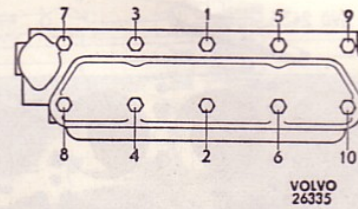
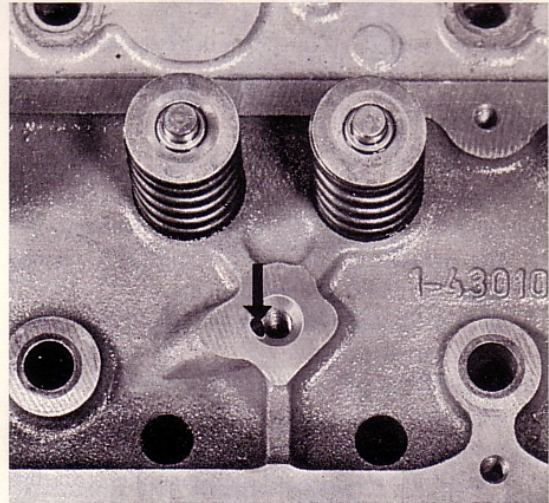
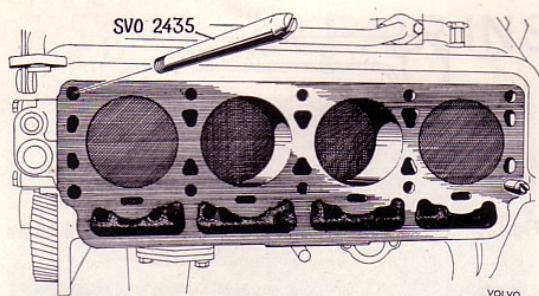

Fig. 23 Tightening sequence for cylinder head bolts
Fig. 24 Oil hole in cylinder head
Fig. 26 Guide pins for fitting the cylinder head
The cylinder head is fitted with the help of guide pins (SVO 2435). The bolts must be tightened in a certain sequence as shown in Fig. 23, in order to avoid unnecessary stresses. Check that the oil hole (Fig. 24) for lubricating the rocker arms is clear. Note that the cylinder head gasket for the B 20 A engine is thicker than that for the B 20 B unit, see "Specifications".
9. Fit the valves. Screw the guide pins SVO 2435 into the block, one in the front right-hand hole and the other in the left-hand rear hole, see Fig. 26. Install a new cylinder head gasket and new sealing rings for the water pump and fit the cylinder head. Screw out the guide pins and fit the bolts in these holes as well. For tightening sequence and tightening torques, see Fig. 23. The tightening torque is 8.5–9.5 kgm (61–69 lb.ft.). Fit the other parts. Fill up with coolant according to the instructions given under "Filling with coolant when the system has been emptied".
3. Screw down the guide pins SVO 2435, one in the front right and one in the rear left bolt hole, see Fig. 26. Fit a new cylinder head gasket and then fit the cylinder head. Note that the cylinder head gasket for the B 20 A engine is thicker than the gasket for the B 20 B unit, see "Specifications". Screw in the cylinder head bolts lightly. Remove lastly guide pins and also fit bolts in these holes as well.
Tighten the bolts in the correct order and to the correct torque. See Fig. 23 and "Specifications".